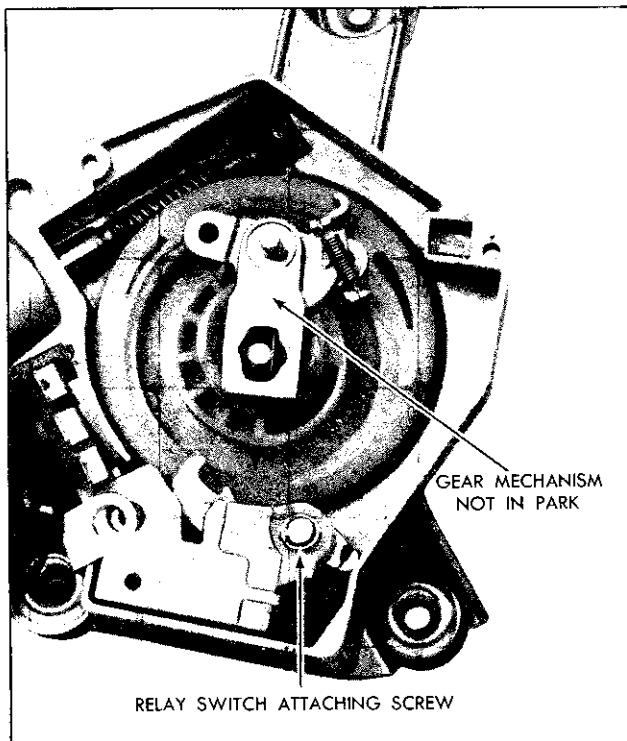

Fig. 12-34 Checking Latch Arm Switch—Pontiac
2. If wiper gear drive pawl is in full park position remove gear. If wiper gear mechanism is not in park position (drive pawl away from latch arm (Fig. 12-34), proceed to step 3).
- a. Remove relay-switch attaching screw (Fig. 12-34) and carefully lift relay-switch out of gear box.
a. Remove relay-switch attaching screw (Fig. 12-34) and carefully lift relay-switch out of gear box.
6. Install relay-switch mounting screw (Fig. 12-34).